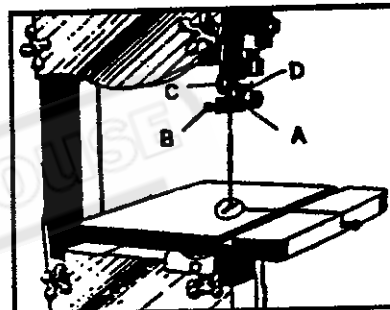

Fig. 21
The upper blade guides (A) Fig. 21. are held in place by means of the set screws (B). Loosen the set screws (B) to move the guides (A) as close as possible to the side of the blade, being careful not to pinch the blade. Then tighten the knob screw (B).
The upper blade support bearing (C) Fig. 21. prevents the blade from being pushed too far to the back which could damage the set in the saw teeth. The support bearing (C) should be set $1/64"$ (0.4mm) behind the blade by loosening screw (D) to move the support bearing (C) in or out. The blade support bearing (C) should also be adjusted so the back edge of the blade overlaps the outside diameter of the ball bearing by about $1/16"$ (1.6mm). The bearing (C) is set on an eccentric and to change position remove screw (D) and bearing (C) Fig. 21. Loosen screw (D). and reposition shaft that bearing (C) is attached to.